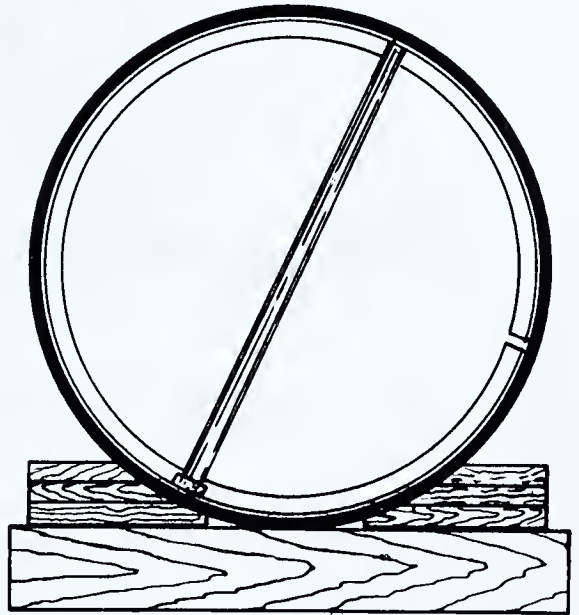

FIG. 383 — *Ring Held in Position for Tack Welding*
After the rings are pushed into the correct location, they are turned around to lie against the inside of the cylinder as shown in Fig. 383.
4. Spread the ring by means of a pipe spreader as shown in Fig. 383.